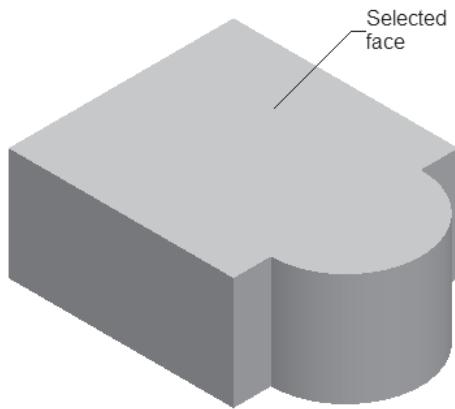

Figure 7-32 Highlighted surface to shell
2. Select the top face of the model to remove, as shown in Figure 7-32. The selected face will be removed from the model, leaving the specified thickness from the boundary of the selected face.